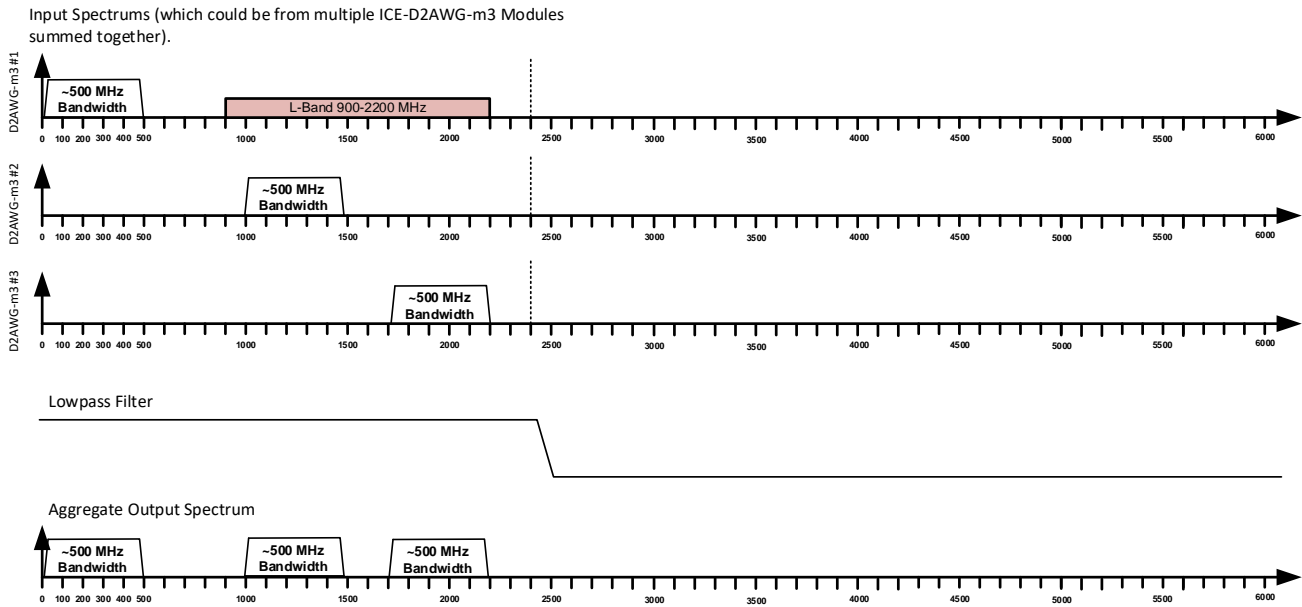

Figure 2 - ICE-D2AWG-m3 output spectrum using 3 different modules summed together below 2400MHz
**RF Lowpass Filtering** – When the transmission frequency is below 2400 MHz bandpass filtering is not necessary. Only low pass filtering is required (see figure 2). This is an advantage of the direct-to-RF frequency range of 1-2400 MHz available with the ICE D2AWG-m3.